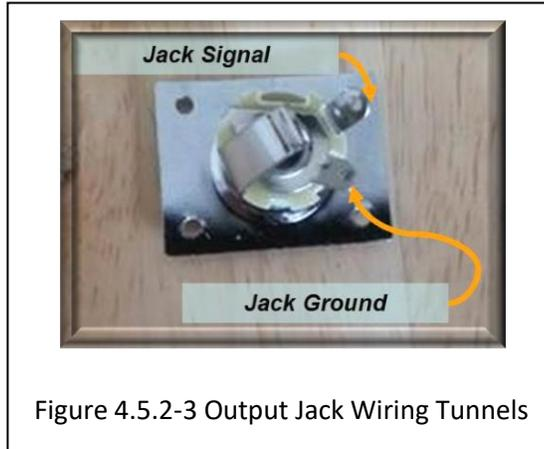

Figure 4.5.2-3 Output Jack Wiring Tunnels
9. Solder the Audio signal (red)/ground wires to the Jack (Figure 4.5.2-3), # 9 on the parts list;
1. Run the shielded Bridge pickup wire through the tunnel (Fig. 4.5.2-1) to the Neck pocket, continuing to the Switch pocket, leaving slack in the Neck pocket as the Neck pickup is seated down into the pocket;